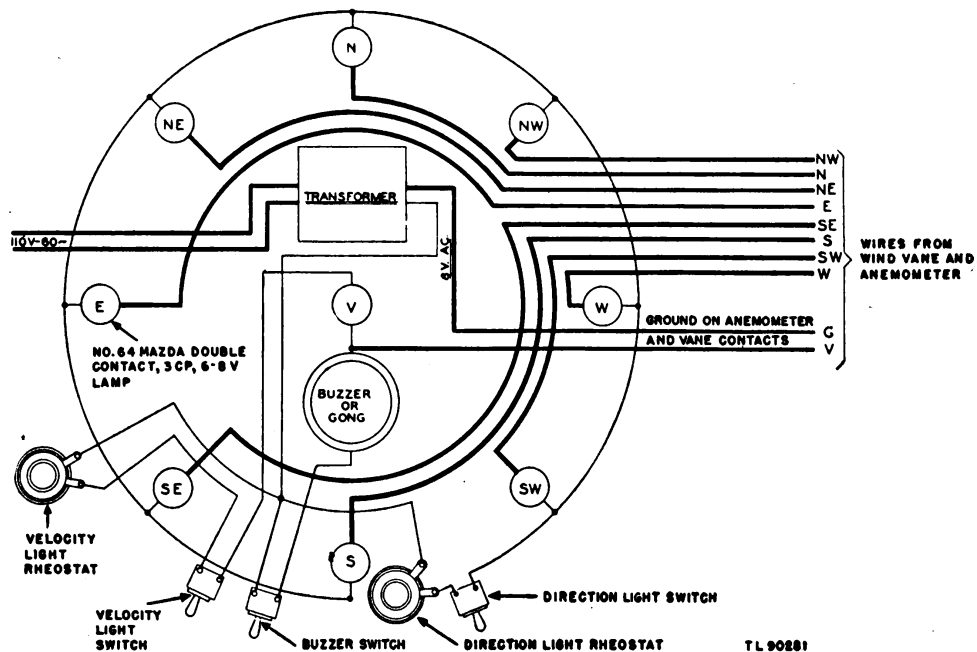
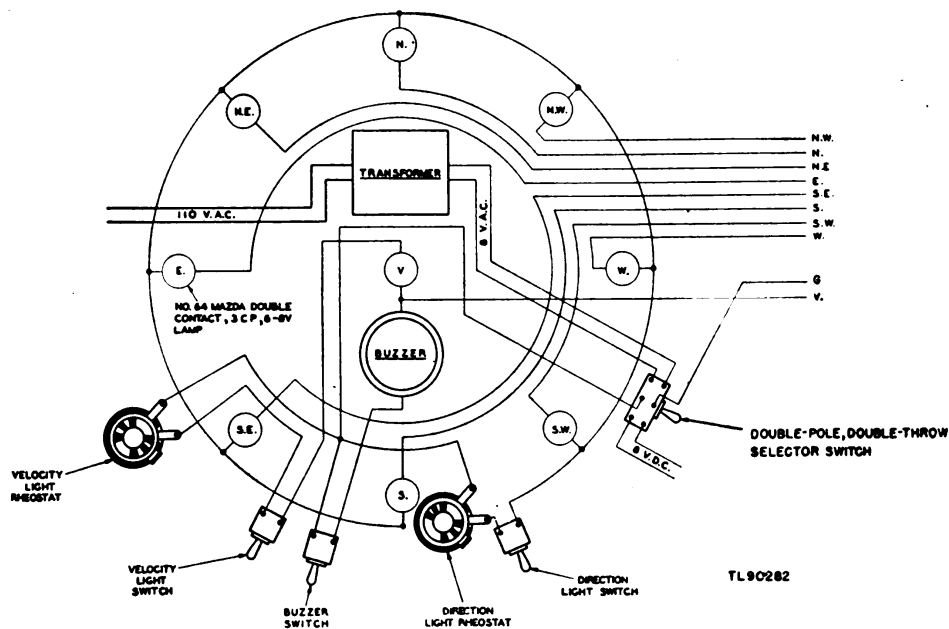

Figure 8. Indicator ML-117 or ML-117-B, 110-volt type, wiring diagram.
Figure 9. Indicator ML-117 or ML-117-B, 110- or 8-volt type, wiring diagram.
(2) In field installations, in the absence of a suitable vertical surface, the indicator may be laid on a horizontal surface.
c. Power supply. (1) Indicators ML-117 and ML-117-B (Signal Corps stock No. 7A1090) are designed so they can be used either on a 110-volt, 60-cycle a-c supply, or on 6-8 volts, alternating or direct current. (See figs. 8 and 9.)
(b) On 6- to 8-volt supply, disconnect the transformer secondary leads from the buzzer switch and the ground connection (fig. 8), and substitute the leads from the low-voltage supply. To permit convenient change-over from one voltage to the other, a hole may be drilled in the side of the case and a double-pole, double-throw tumbler switch installed and connected as shown in figure 9.